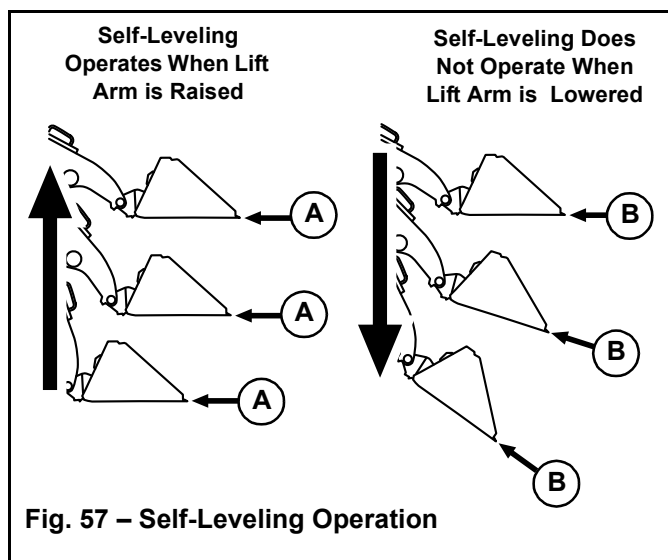

Fig. 57 – Self-Leveling Operation
Self-leveling automatically keeps the tilt angle of the attachment constant (B, Fig. 57) when the lift arm is raised (A). This feature is especially useful when using pallet forks.
**IMPORTANT:** *Self-leveling operates only when the lift arm is raised: when the lift arm is lowered (C), self-leveling is not activated (D).*